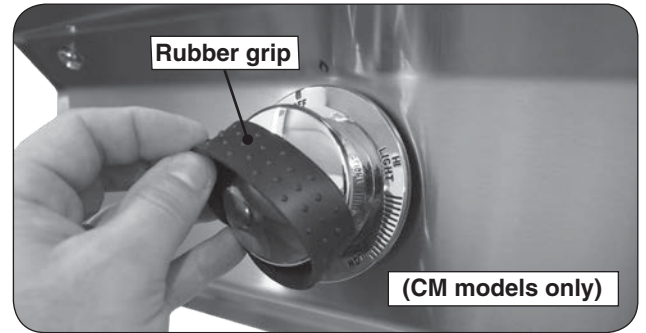

Fig. 30-1 Rubber grips removal (if applicable)
2. For CM models, remove the rubber grip from a control knob (see Fig. 30-1).